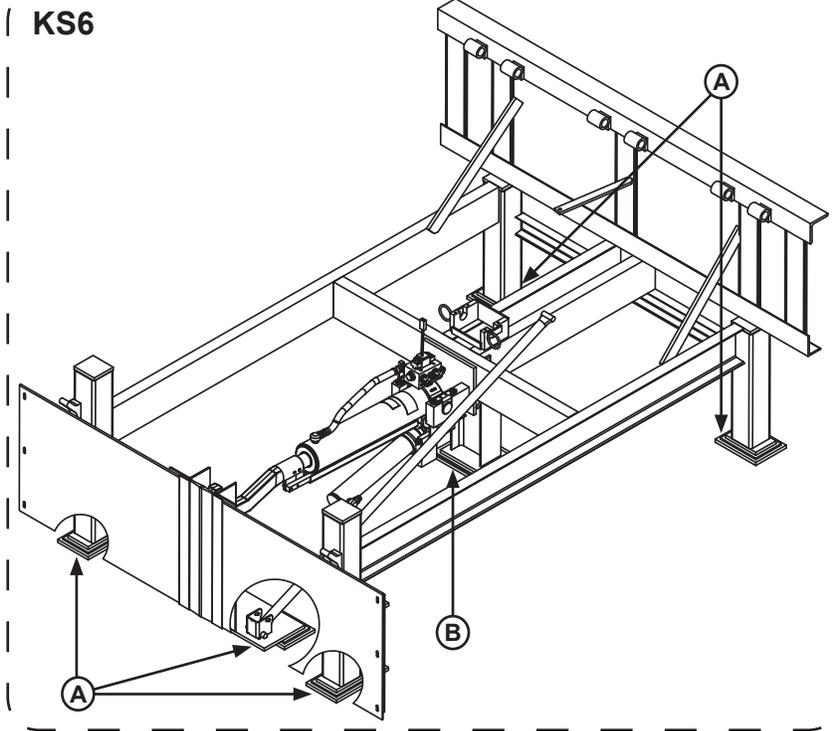
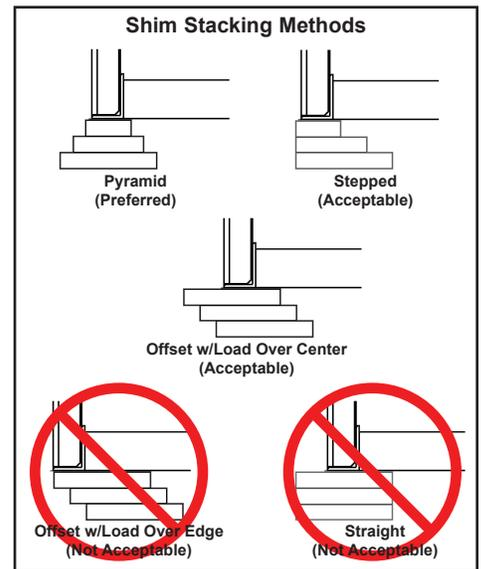

Figure 20
Figure 22
KS6 models only: Tack weld the shims under the front legs to the legs, the plates imbedded in the pit floor, and to the pit front curb angle. This should be done from outside the pit prior to raising platform. See Figure 20.
12. Finish weld all shims to unit, and where possible, to plates or pit curb angles. Stack as shown in Figure 22, and weld shims together where stacked.
- Single hoist cylinder models: shim the hoist cylinder support so that the center channels are level. Stack as shown in Figure 22, and weld shims in place. See Figures 20 & 21.
- Dual hoist cylinder models: shim the hoist cylinder supports so that the side channels are level. In addition, shim under the center beam support so that the center beam is level. Stack as shown in Figure 22, and weld shims in place.